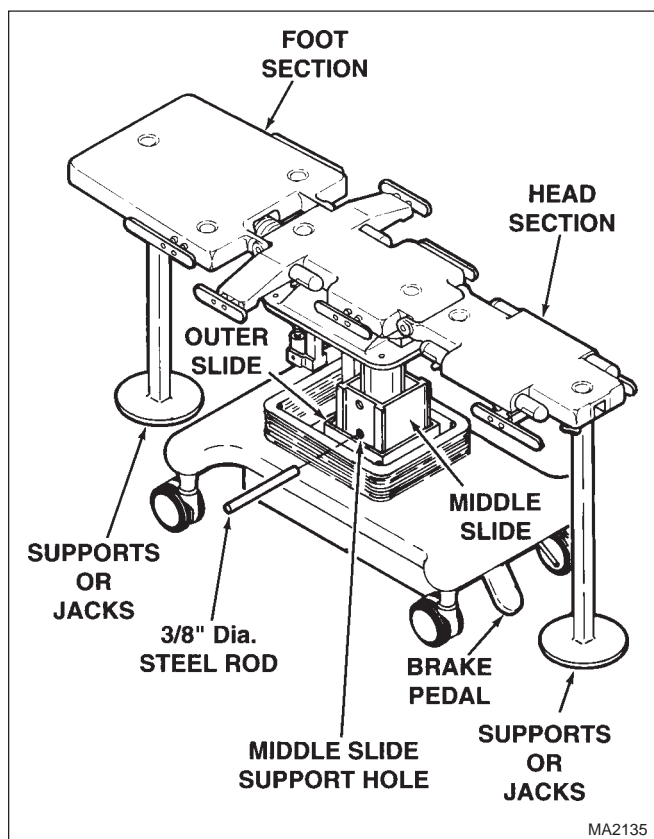

Figure 4-9. Preparing For Base Actuator Removal
- (2) Remove the back cover (Refer to para 4-2).
- (3) Lower bellows assembly (Refer to para 4-3).
- (4) Remove electrical cover (Refer to para 4-4).
- (5) If the base actuator is still operable, raise the table top to its highest position.
- (6) Operate the surgery table to get the foot section, seat section, and head section of the table top to a horizontal position. See Figure 4-9.